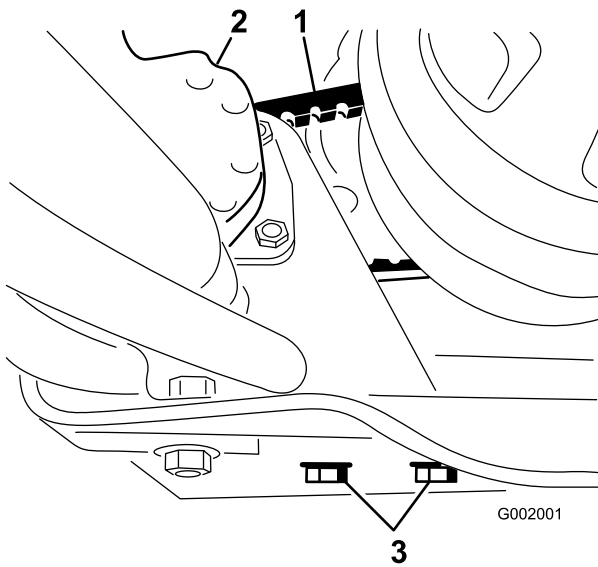

Figure 60
2. Loosen the steering pump mounting bolts (Figure 60).